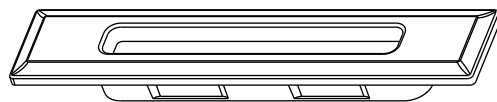

Fig. 1
- 1** Snap "Overflow" cover into overflow of tub. Ensure it is securely in place. (See Fig. 1)